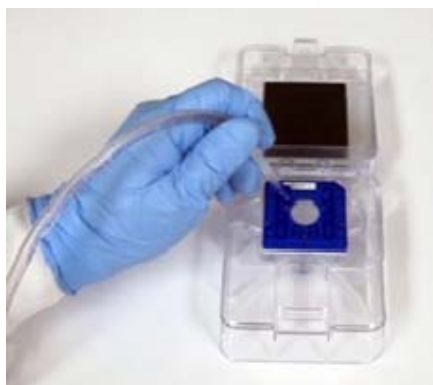

Figure 2. Using a vacuum to aspirate the chip wells is more effective than using a pipette.
- 2 Use a pipette tip attached to a vacuum line to thoroughly aspirate all fluid from the chip wells (see Figure 2). For more details on how to set up a vacuum line see page 30.